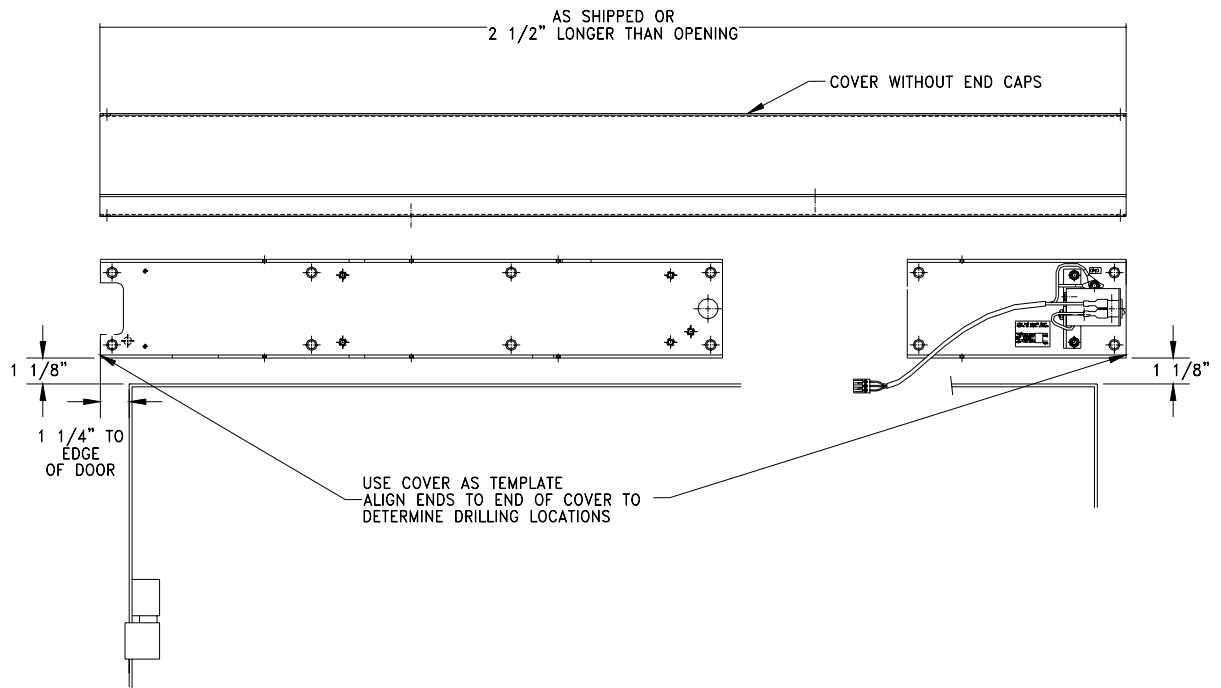

FIGURE 17: CENTERING OPERATOR OVER OPENING
2. Center operator over opening (**Figure 17**).